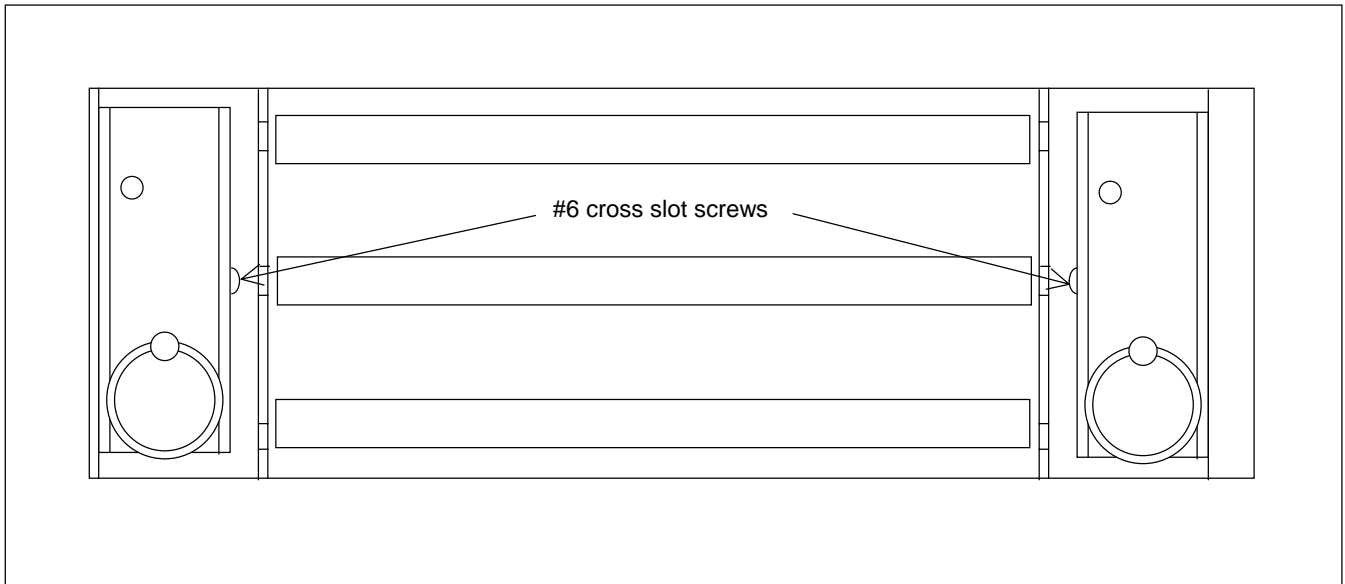

Figure 8-2. Front view of RFL 9745 with front cover folded over
The following paragraphs provide procedures to be used when removing and replacing RFL 9745 modules and I/O modules. Refer to Figure 8-2 for module locations.
4. Loosen the #6 cross slot screw as shown in Figure 8-2.
3. Tighten the #6 cross slot screw as shown in Figure 8-2.
11. Tighten the #6 cross slot screw on the Main Power Supply as shown in Figure 8-2.
12. Loosen the #6 cross slot screw on the Redundant Power Supply as shown in Figure 8-2.